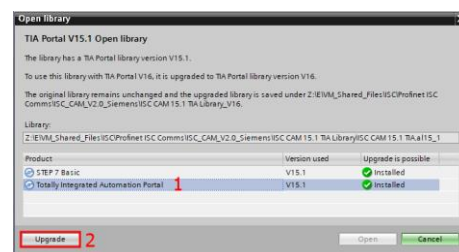

Figure 15: Library Upgrade from V15.1 to Newer Version of TIA Portal Project
33. If the TIA Portal project is a version newer than V15.1 a new window will appear, “Open library,” Figure 15.
34. Select One of the products listed “Totally Integrated Automation Portal” or “STEP 7 Basic” and select “Upgrade,” Figure 15.